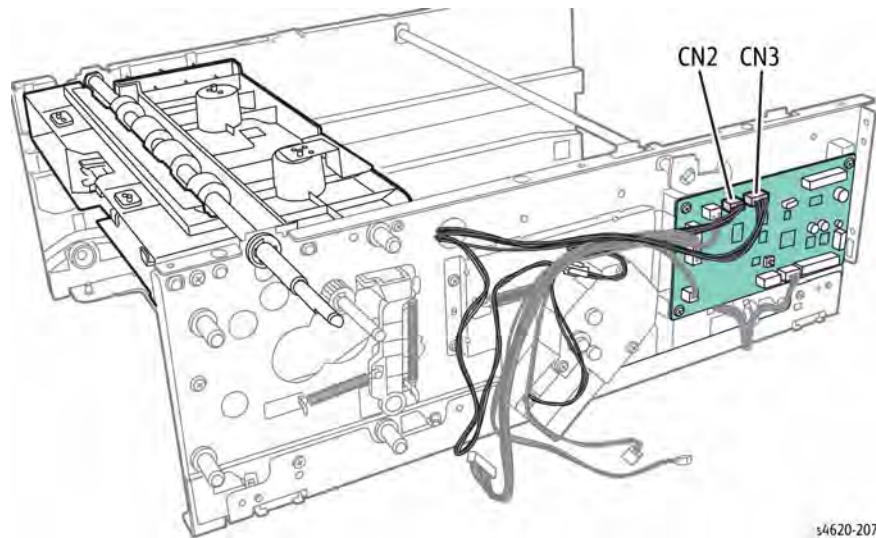

Figure 3 Disconnect the Feed Assembly
12. Disconnect CN2, CN3, and P/J85, then feed the harnesses into the tray cavity, Figure 3.